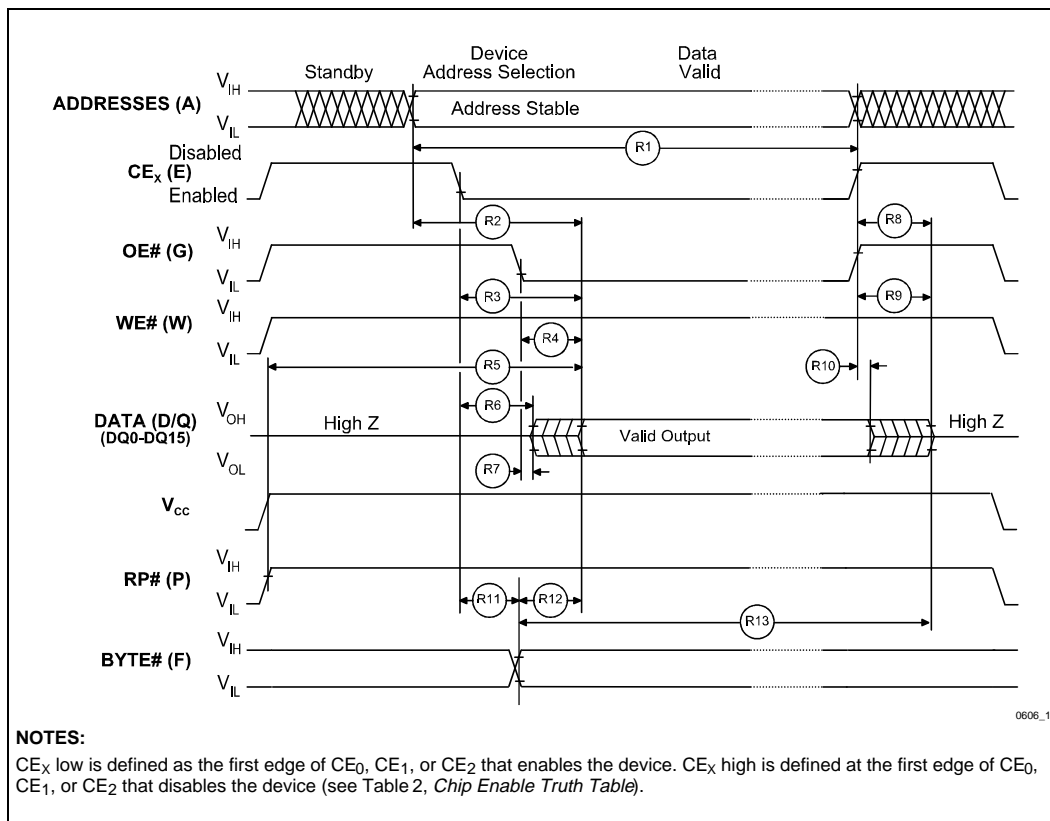

Figure 16. AC Waveform for Read Operations
- See Figure 16, *AC Waveform for Read Operations* for the maximum allowable input slew rate.